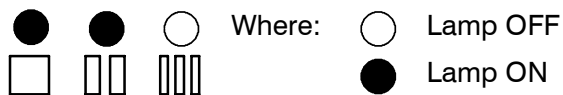

Fig. 7.10
- 12 Press the reset button 7 repeatedly (2 times) until the lamps 10 give the indication as in Fig. 7.10 (useful c.h. output adjustment mode).